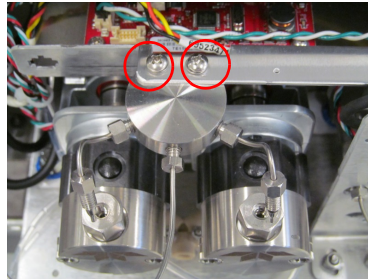

Figure 6-23 Location of tee mounting screws
- Using a phillips screwdriver, remove the 'Y' fitting located above pump heads (Figure 6-23).